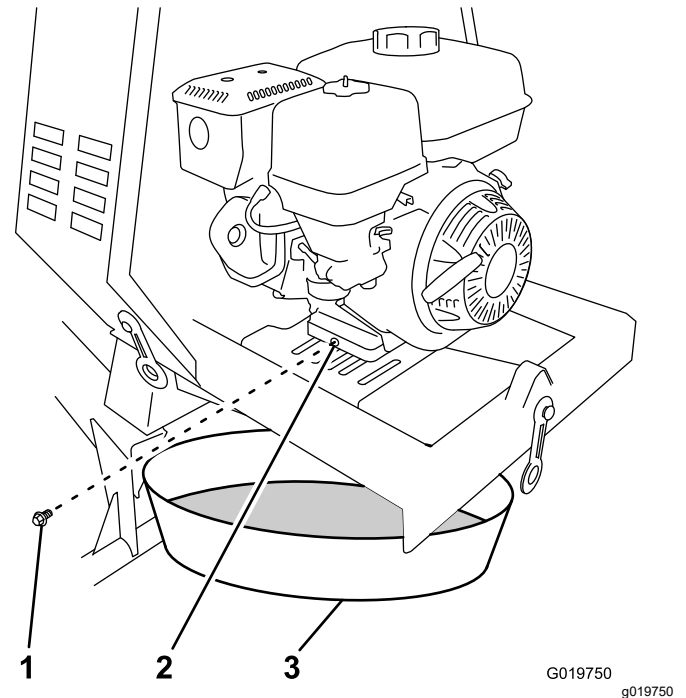

Figure 42
3. Place a drain pan under the oil-drain hole of the engine (Figure 42).
4. Remove the drain plug and catch the oil in the oil-drain pan (Figure 42).
5. When the oil has drained completely, install the drain plug with a new washer (Figure 42).